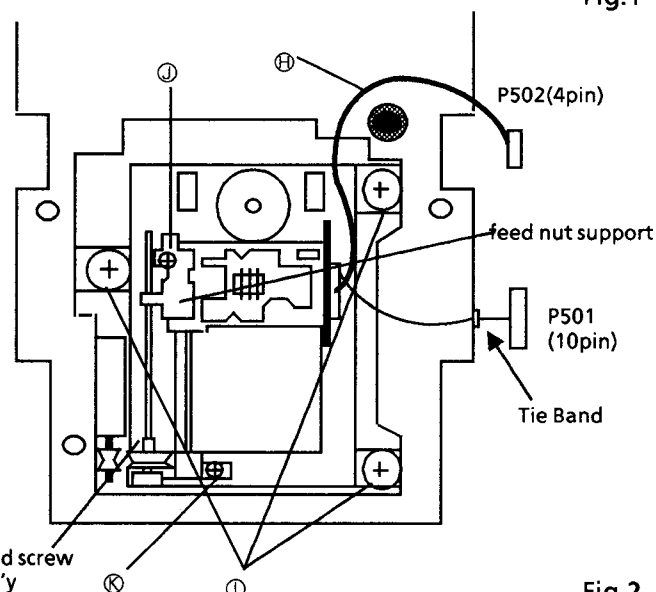

Fig.2
- 3) Remove the 2 screws (B) fastening the changer assembly.
- 5) Slide the changer assembly to arrow direction (I).
Wire (H) should be set as Fig.2.
4. Removing the turntable base (Fig.2)
- 3) Remove the 3 screws (O).
5. Exchanging the pickup (Fig.2)